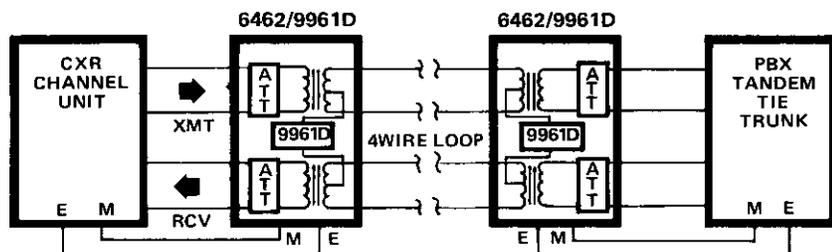

figure 3. Typical application of 6462 equipped with 9961D
2.09 The 9961D Signaling Converter DX subassembly, when mounted on the 6462 module, provides extended E-and-M-lead (DX) signaling, i.e., conversion from E-and-M-lead signaling to DX signaling, over a 4wire facility (figure 3). Maximum range of the 9961D is 5000 ohms loop resistance. The 9961D may be switch-optional for either DX1 or DX2 operation. In the DX1 mode, M-lead signals are input to the module and E-lead signals are output. In the DX2 mode, M-lead signals are output, and E-lead signals are input.